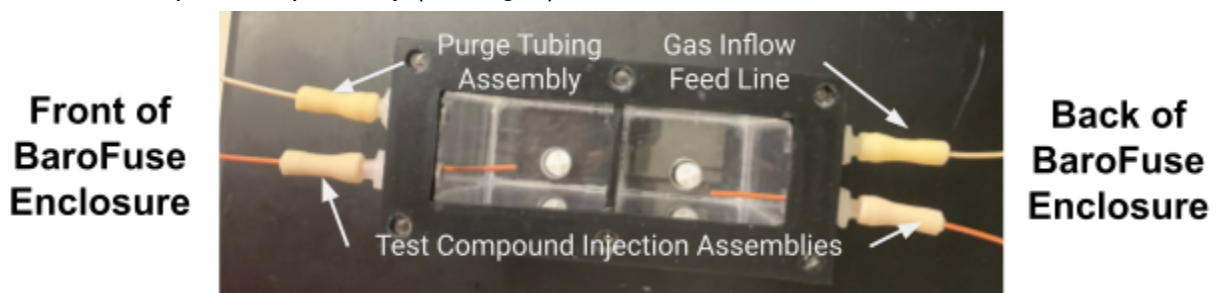

Fig. 2. Test Compound Injection Tubing Assembly and Purge Tubing Assembly attached to ports on the MRM.
4. Then attach the Gas Inflow Feed Line and Purge Tubing Assembly to the back and front vacant ports respectively (see Fig. 2).